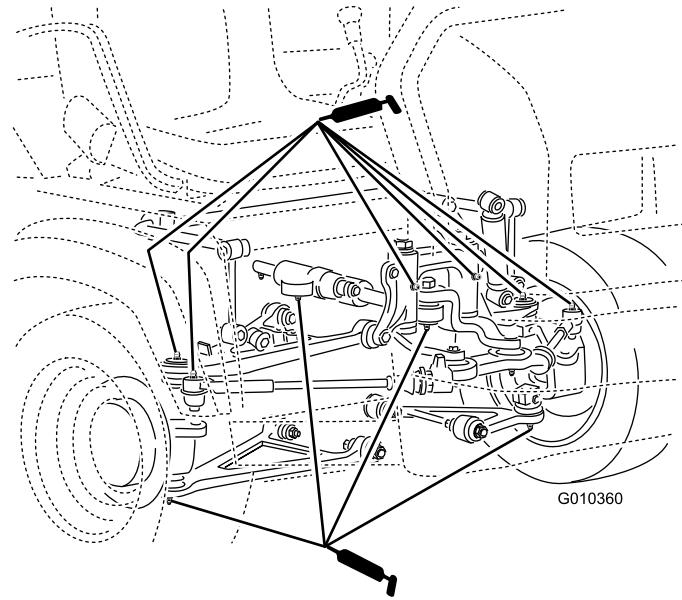

Figure 28
- Ball joints (4);** refer to Figure 28
- Tie rods (2);** refer to Figure 28
- Pivot mounts (2);** refer to Figure 28
- Steering cylinder (2);** refer to Figure 28